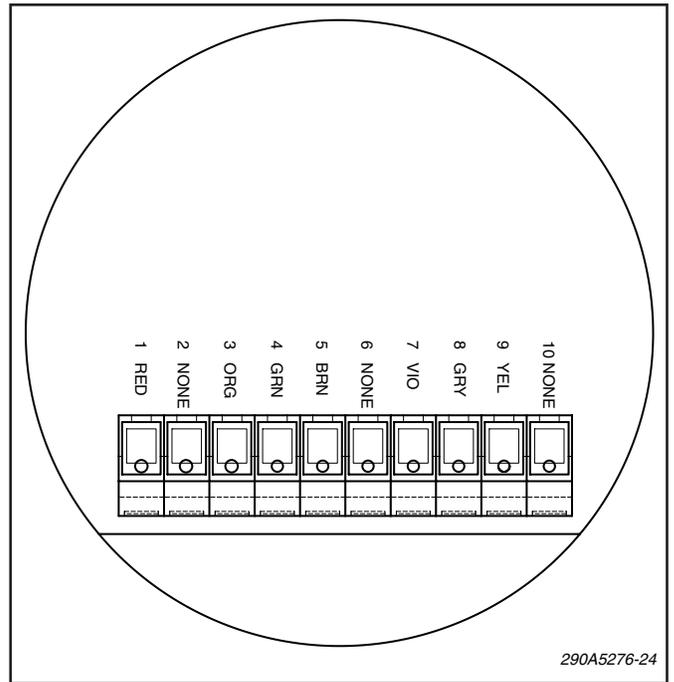

Figure 6-8.
3. See figure 6-8. Strip the cable jacket back 4 inches, then strip 1/4" of the insulation from the wires shown in figure 6-8.
4. Connect wires the screw header on the Smart Pod/Signalmaster board as shown in figure 6-8.